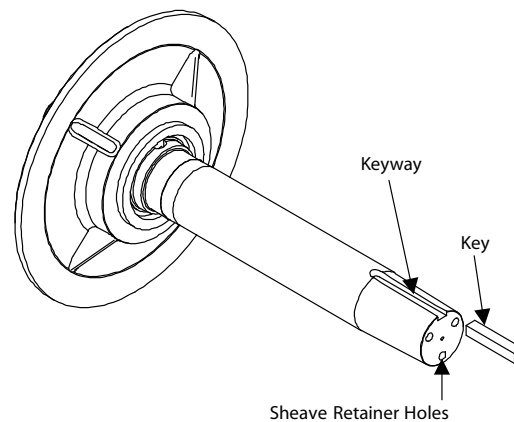

Figure 61 - Output Shaft Keyway
6. Install the key in the keyway. See Figure 61.